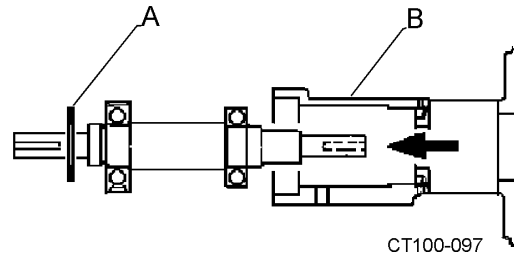

Figure 50 - Bearing Shaft Assembly Removal
11. Push the shaft and bearing assembly out of the housing from the impeller end. (Figure 50).
12. Remove the retaining ring and press the bearings off the shaft. (Figure 50, items A and B).